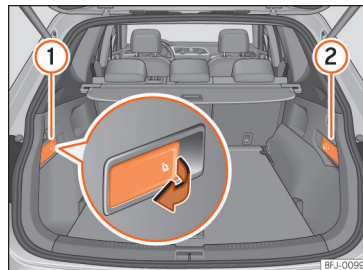

Fig. 116 In the luggage compartment: levers for release, from the luggage compartment, of the left part ① and right part ② of the rear seat backrest.
- Pull the unlocking lever »» Fig. 116 of the part of the backrest to fold down.